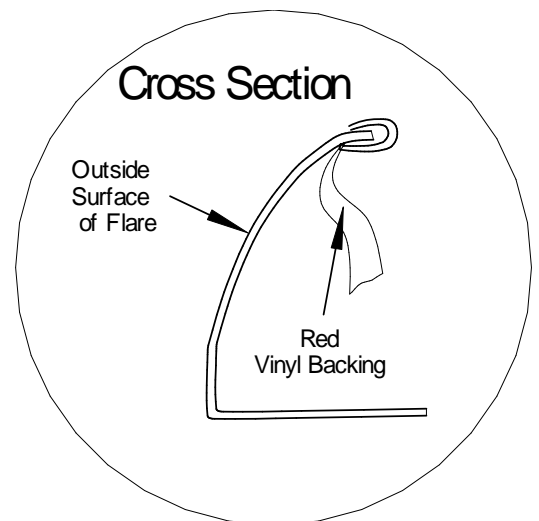
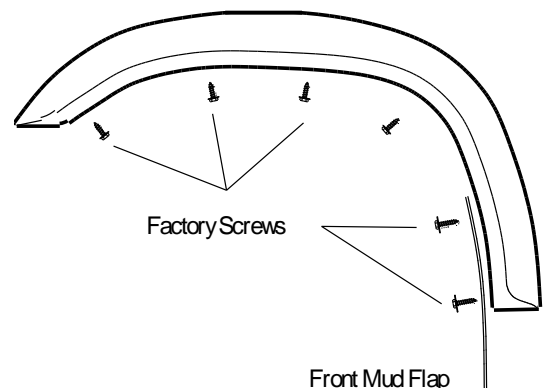

FIGURE 1
FIGURE 2
- (A) Sanding before application of paint is optional.
- (B) Clean outer surface with a good grade degreaser. **Do not use** lacquer thinner or enamel reducer as a degreaser. Wipe outer surface thoroughly with a tack rag prior to painting.
- (C) Paint flares using a high quality lacquer, enamel, or polyurethane automotive paint. Application of a primer coat is optional. Painting edge trim is not recommended.
Step 2: Edge Trim Installation (See FIGURE 1)
- (A) The 19' roll of edge trim that is included with each kit needs to be cut to the following lengths: two 51" pieces and two 64" pieces.
- (B) Peel two to three inches of red vinyl backing away from edge trim tape. Applying the adhesive side of the edge trim to the inner side of the flare, affix the edge trim to the top edge of the flare (the portion that comes in contact with the side of the vehicle).
- (C) Press edge trim into place along the top edge of the flare in one-foot increments, pulling red vinyl backing free as you continue to work your way around the top edge of the flare. Remove any excess edge trim.
- (A) Remove the screws securing the mud flap and factory fender trim (when installed) along inside rim of wheel wells.
- (B) Drill 5/16" holes along the inside surface of the flare using indents as a guide.
- (C) Secure flare and mud flap to fender through 5/16" holes using screws removed in Step 3A or screws provided with kit. See FIGURE 2. Insert screws through the flare into the plastic screw retainers along the inside of the wheel well rim.
- (C) Secure flare to fender through 5/16" holes using screws removed in Step 4A and/or screws provided with kit. Insert screws through flare into plastic screw retainers along inside of wheel well rim. Reattach mud flap. (The mud flap may require slight trimming for proper fit.)